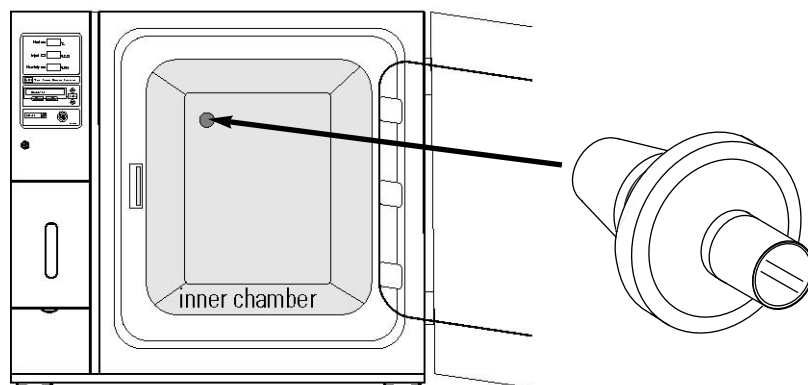

Figure 1-10. Access Port Filter Installation
- Install the the filter/stopper assembly into the opening inside the chamber. See Figure 1-10.